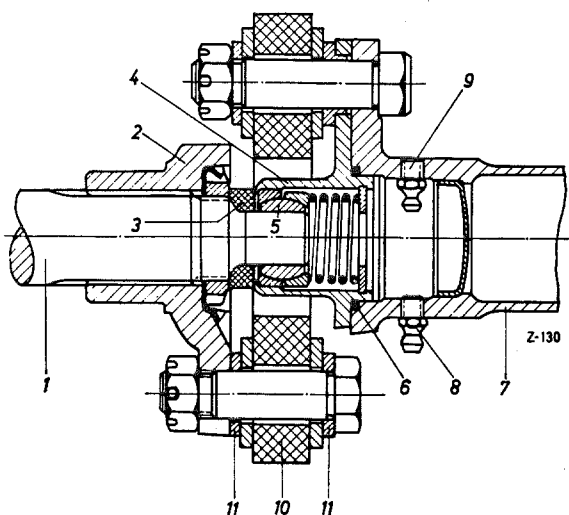

Fig. 41 — 4/3
4. If the front propeller shaft is to be replaced, remove the center cross (4) (Fig. 41 — 4/3).